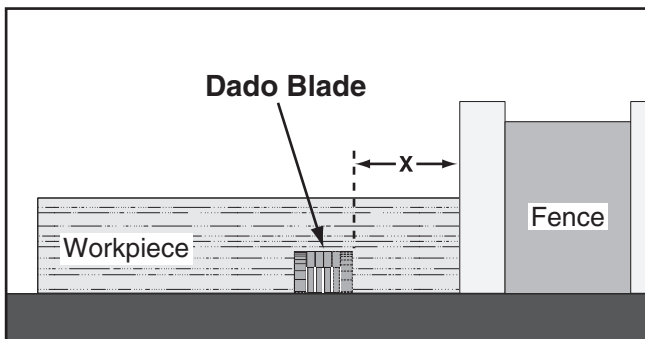

Figure 63. Example of a dado cut with a dado blade.
Commonly used in furniture joinery, a dado is a straight channel cut in the face of the workpiece. Dadoes can be cut using either a dedicated dado blade or a standard saw blade. **Figure 63** shows a cutaway view of a dado cut being made with a dado blade.
2. Adjust the distance between the fence and the inside edge of the blade, as shown in **Figure 63**, to dado the length of a workpiece.